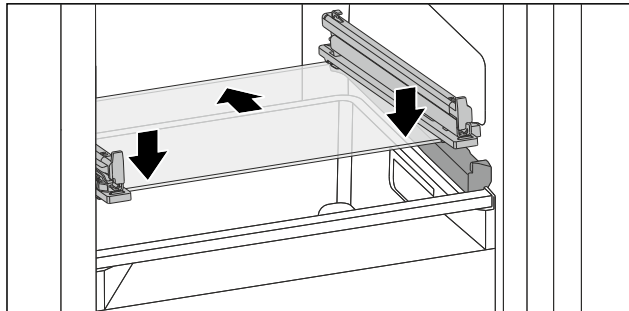

Fig. 200 Tilting drawer glass shelf
- Position glass shelf at an angle behind the stoppers. (see Fig. 200)